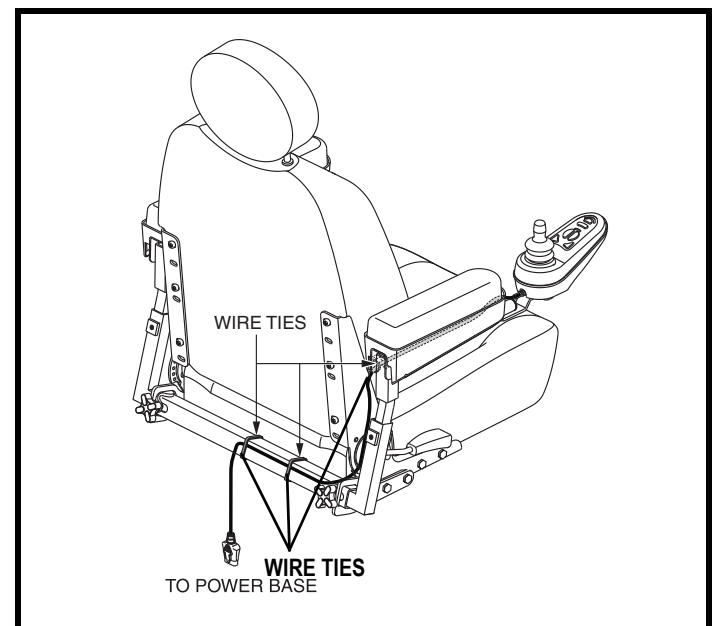

Figure 12. Controller Harness Routing
7. Secure the controller harness to the armrest receiver with one or more wire ties. See figure 12.
16. Secure the controller harness with one or more wire ties. See figure 12.
9. Secure the controller harness with one or more wire ties. See figure 12.